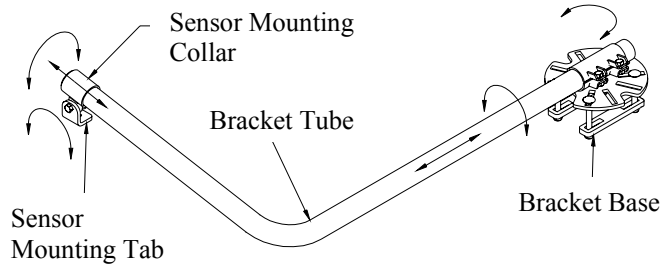

Figure 11 – Main Lift Sensor Bracket
1. Assemble the main lift sensor bracket (B11) as shown in **Figure 11**.